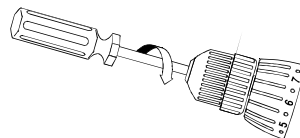

Fig. 12
6. Remove the chuck screw using a #2 (+) screwdriver (Fig. 12).